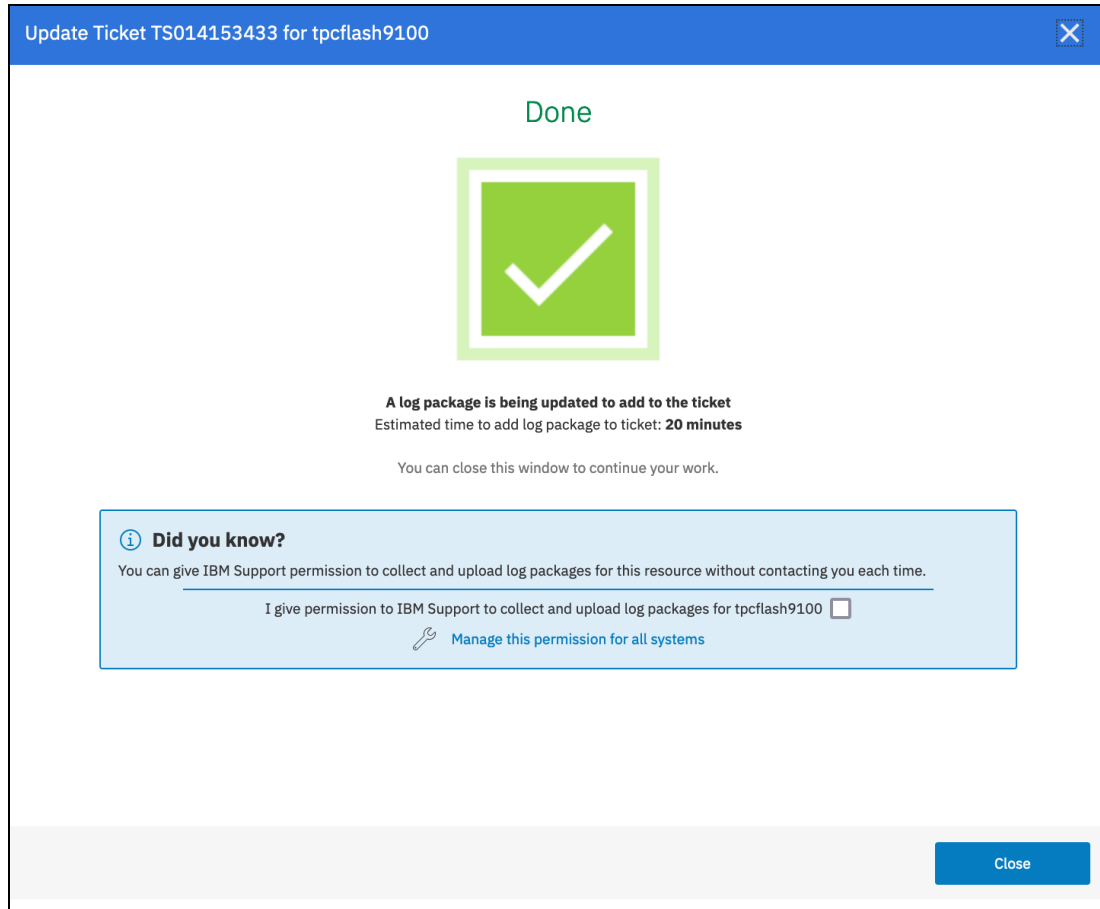

Figure 5-21 Log upload completed and processing
4. After clicking **Update Ticket**, a confirmation opens, as shown in Figure 5-21 on page 85. You can exit the wizard. IBM Storage Insights runs in the background to gather the logs and upload them to the ticket.